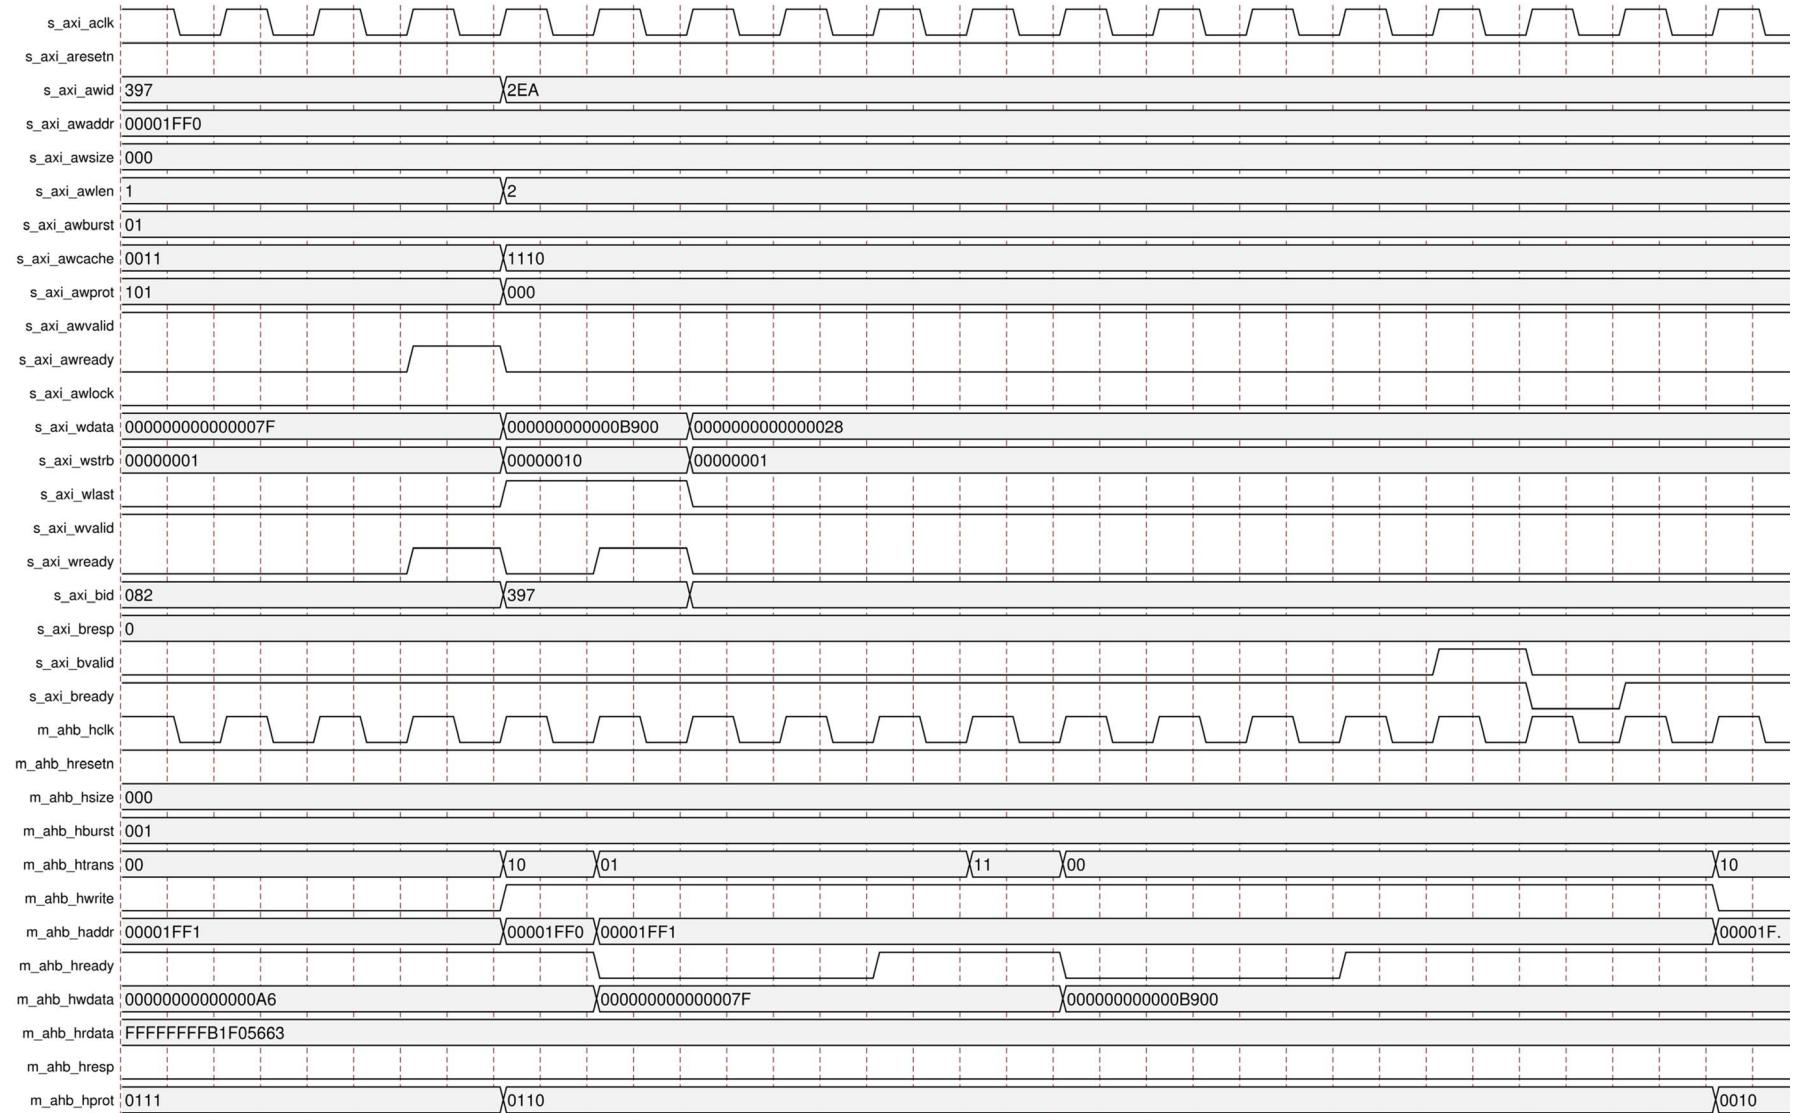

Figure 3-11: AXI4 8-bit Narrow Write Transfer on 64-bit Data Bus
11. AXI4 8-bit narrow write transfer on 64-bit data bus is shown in Figure 3-11.